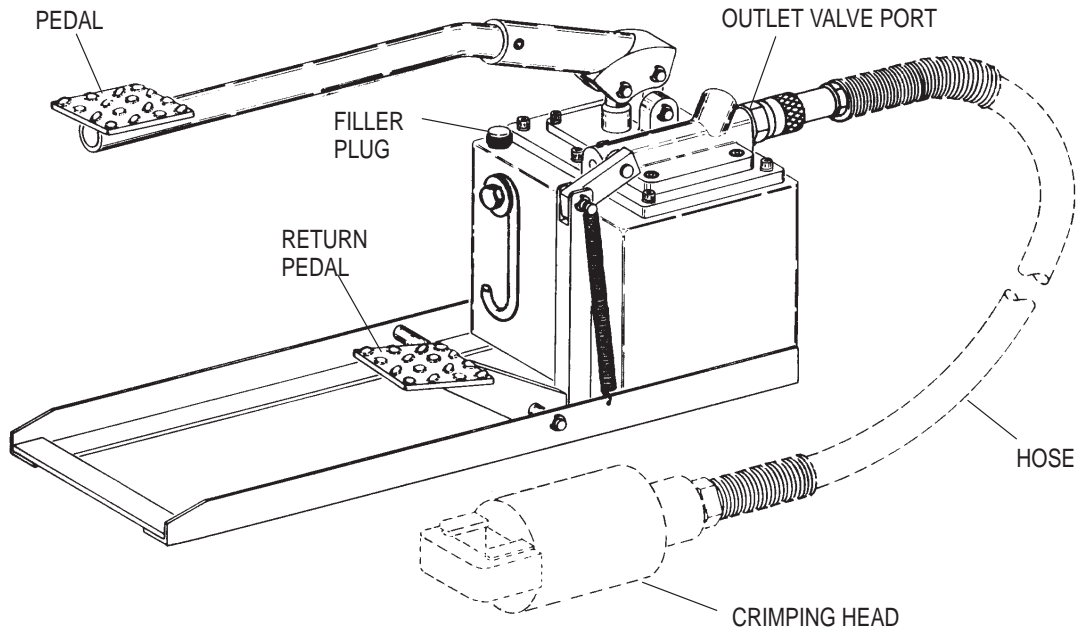

Figure 3-1. Foot Pump Preparation
CAUTION *DO NOT operate foot pump without having hose and crimping head attached. Refer to Figure 3-1.*
1. Use a clean cloth to remove all dust and grit from area around filler plug. See Figure 3-1.